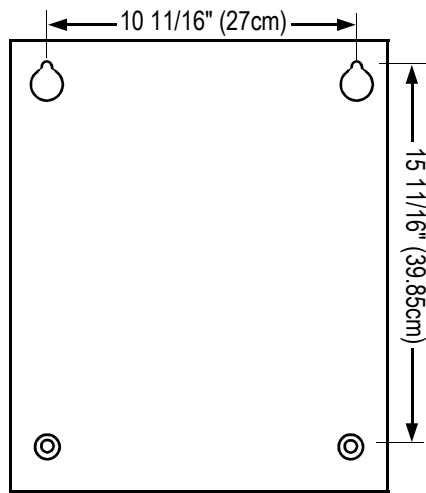

Figure 5 - Expansion Unit Cabinet Mounting Hole Dimensions
2. Mark the four mounting holes against the mounting surface using the Expansion Unit cabinet as a template, or using the measurements provided in Figure 5.